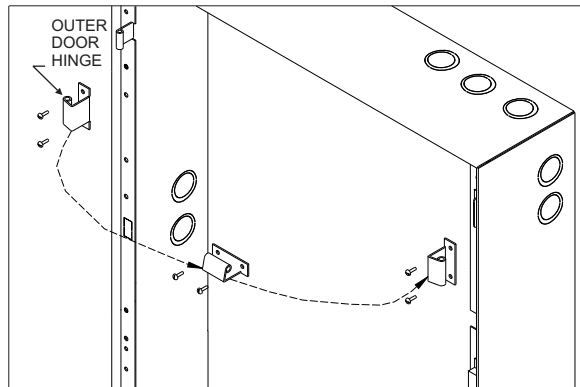

Figure 4
1. Remove the upper door hinge, turn the hinge upside down, and install on the right side of the backbox. (Refer to Figure 4.)